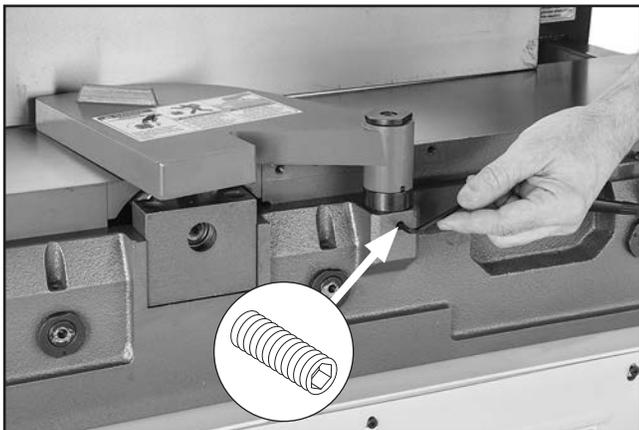

Figure 32. Tightening set screw to secure cutterhead guard.
21. Insert cutterhead guard shaft into jointer, as shown in **Figure 32**, so shaft flat is facing set screw, then tighten pre-installed set screw against shaft. Position the bottom of the guard so it is no more than $\frac{3}{8}$ " above the table, to ensure safety during operations.